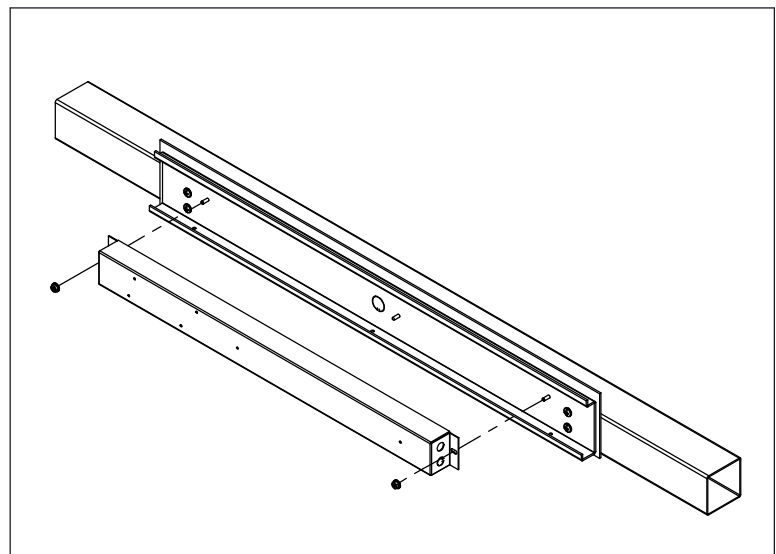

Figure 4
4. Make all necessary electrical connections and reattach Wireway Cover to Mounting Plate with wireway cover screws (Fig. 4).